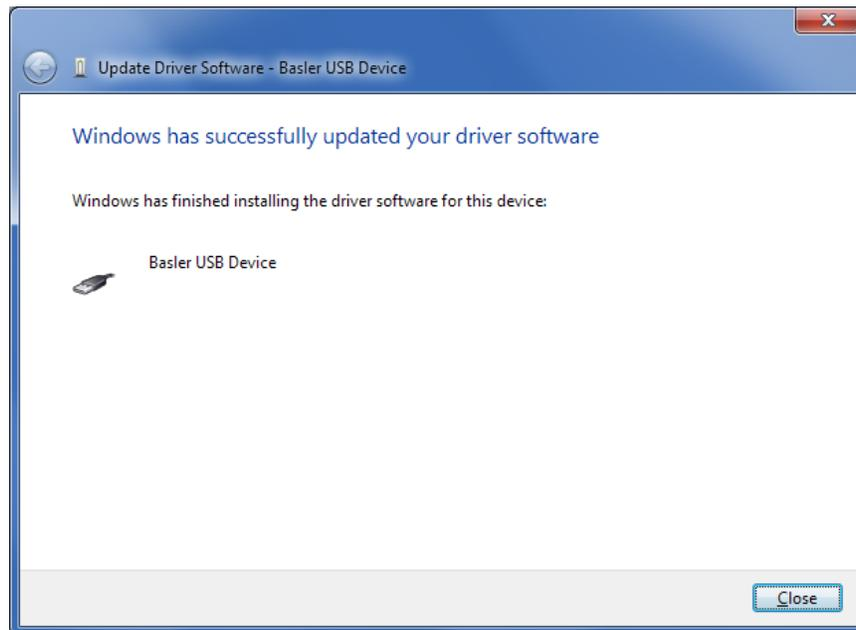

Figure 8-7. Driver Software Update Successful
Step 7. The window in Figure 8-7 appears if driver installation was successful.